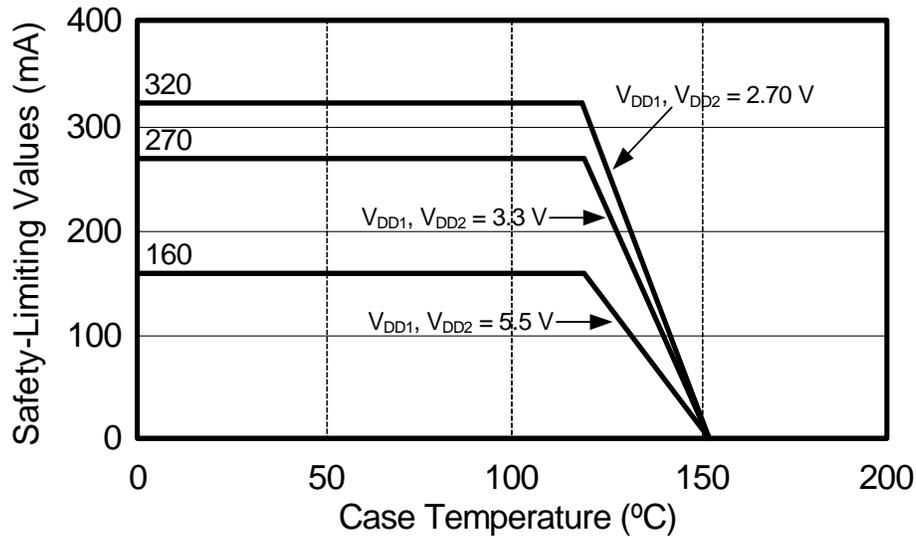

Figure 2. (NB SOIC-8) Thermal Derating Curve, Dependence of Safety Limiting Values with Case Temperature per DIN EN 60747-5-2
- Maximum value allowed in the event of a failure; also see the thermal derating curve in Figure 2.